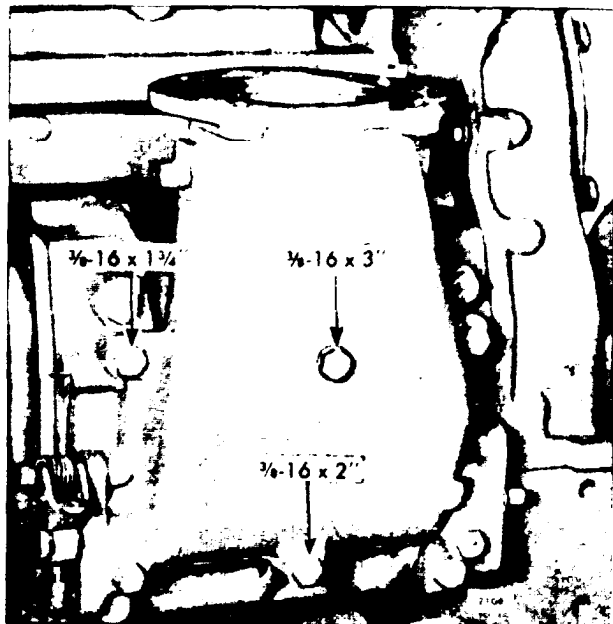

Fig. 3 Location of Air Shut-Down Housing Mounting Bolts (In-Line Engines)
- a. Install and finger tighten the six attaching bolts shown in Fig. 3.